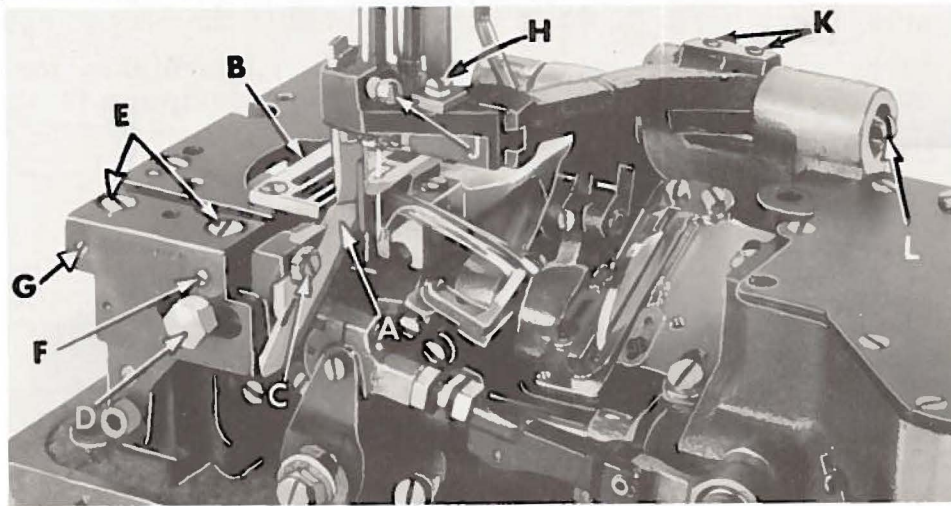
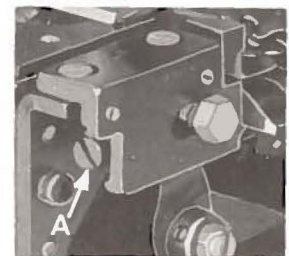

Fig. 15
Fig. 16
The cutting edge of the lower knife (A, Fig. 15) should be set level with the top of the throat plate (B). This can be accomplished by loosening screw (C), move
lower knife up or down as required and retighten screw. The trimming edge of lower knife should be aligned with the center of the right needle. This can be accomplished by loosening screw (D), turn screw (A, Fig. 16) toward the operator to move knife to the left and turning it away from the operator acts the reverse. When desired position of knife has been obtained, retighten screw (D, Fig. 15). The shear angle of the lower knife should be set at about 1 degree, yielding to the rear. This adjustment can be made by loosening screws (E) and turning screw (F) counterclockwise and screw (G) clockwise until the 1 degree is obtained, turning screws (F) & (G) in the opposite direction will decrease the shear angle. Retighten screws (E).
The upper knife should be set to trim the full length of its blade. Positioning of knife to the left or right can be accomplished by loosening screw (H, Fig. 15). Positioning of knife upward or downward can be accomplished by loosening screw (J). When desired position of knife has been obtained, retighten screw. Should forward or rearward repositioning of upper knife become necessary, loosen Allen head screws (K), then turn eccentric pin (L) as required. Retighten Allen head screws.